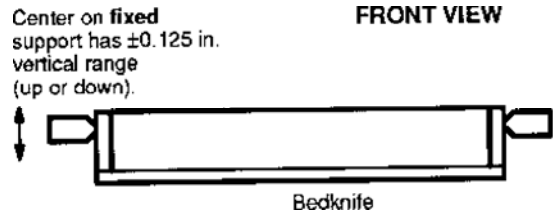

FIG. 41
Reset the grinding head angle dial to 0 degrees. See FIG. 41. Note that you are only moving the dial ring, not changing the motor angle.
**NOTE:** If the bedknife is badly worn, you may want to move the centers (on the bedknife supports) out of alignment, to avoid removing excessive metal stock from one end of the knife. Use the alignment lever on the fixed support to move the left end of the knife up or down as desired. The center has an adjustment range of  $\pm 0.125$ " [3.2 mm]. See FIG. 41.